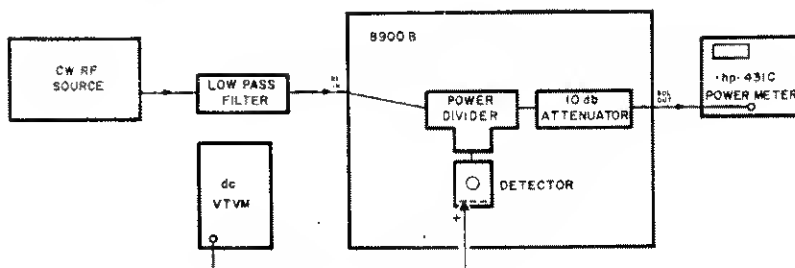

Figure 5-4. Detector Diode Check Setup
- c. Connect equipment as shown in Figure 5-4.